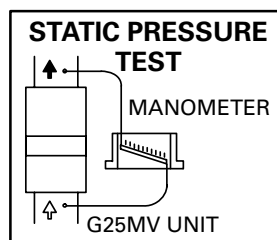

FIGURE 24
- 1- Measure tap locations as shown in figure 24.